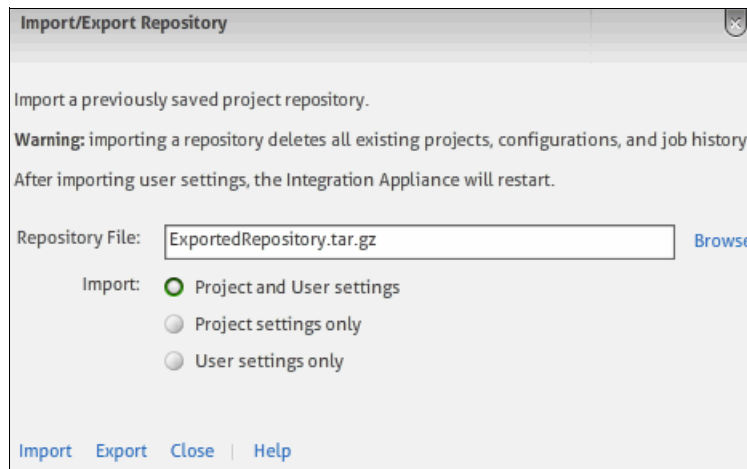

Figure 6-5 Settings to import
3. Click **Browse**, and select the .tar.gz file with the exported repository, and then select the settings to be imported, as shown in Figure 6-5.
The available options to import a project repository, as shown in Figure 6-5, are: